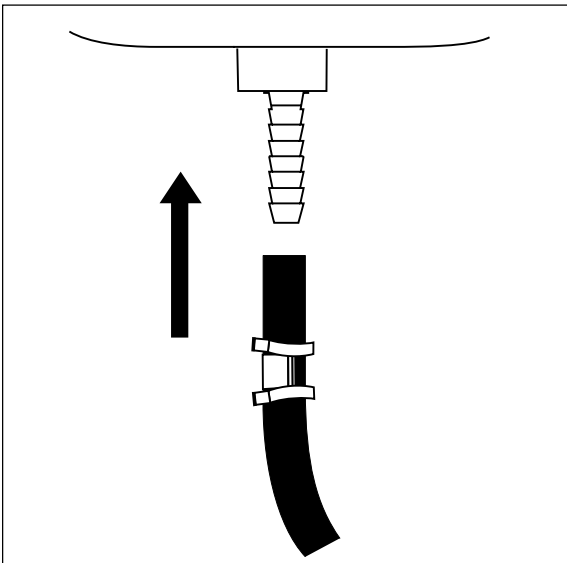

Figure 4
- h. Push the air line onto the stem of the air spring, covering all the barbs (Figure 4).